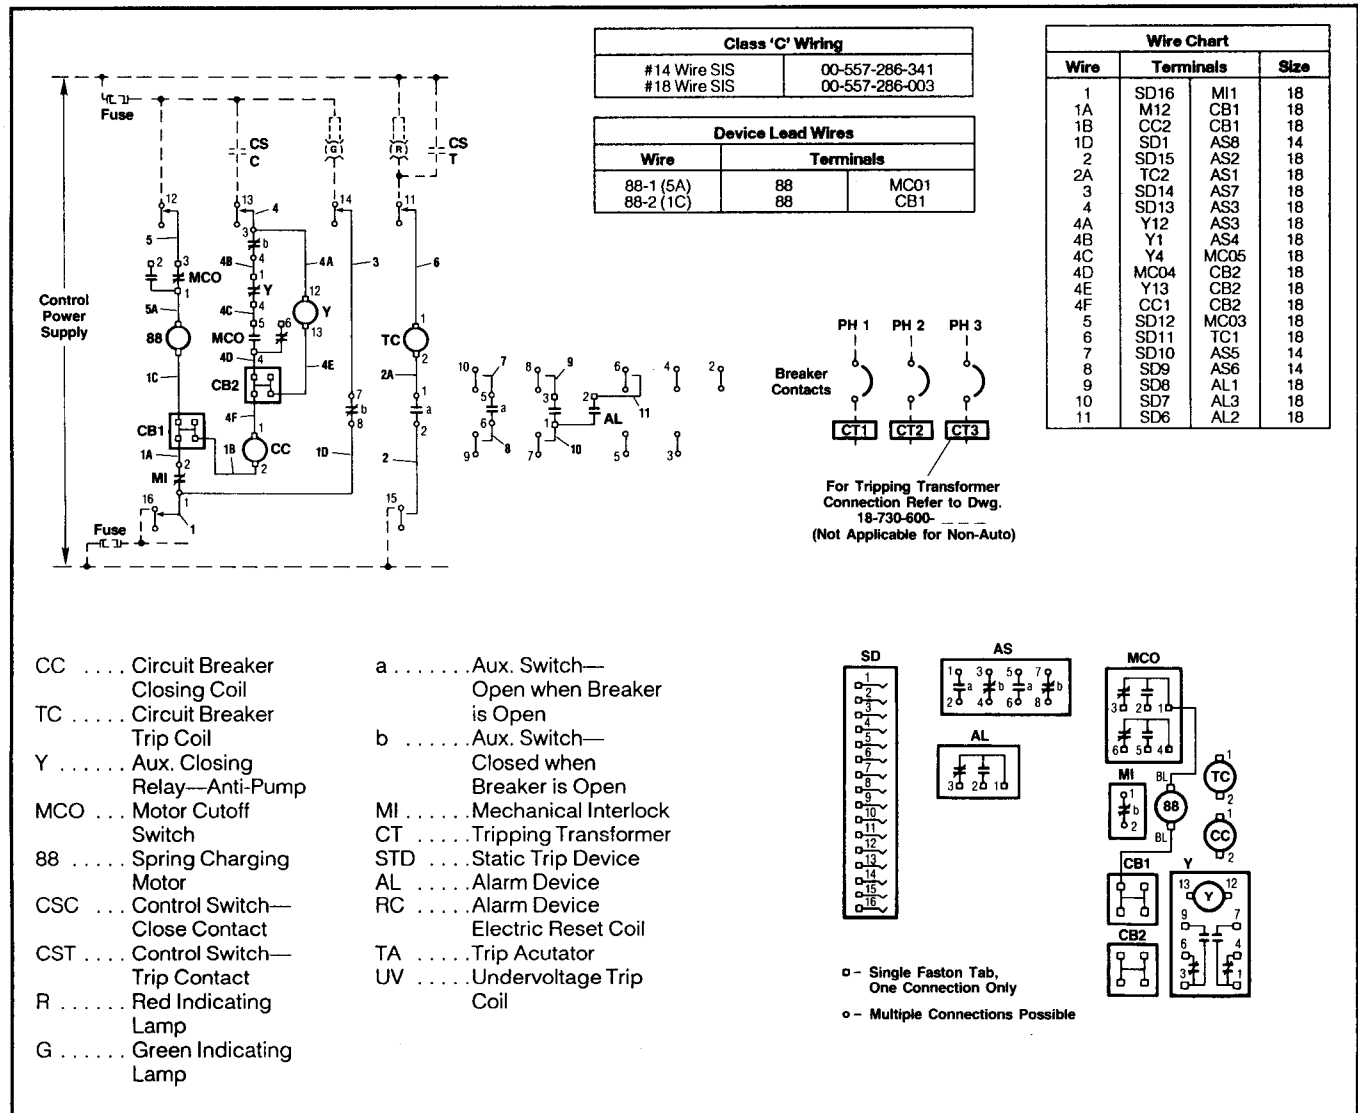

Figure 2. Typical Wiring Diagram—Electrically Operated Breakers
Tripping	Push in manual trip rod (94). OR If shunt trip is provided, operate remote trip control switch (CST). (See Figure 2 .)